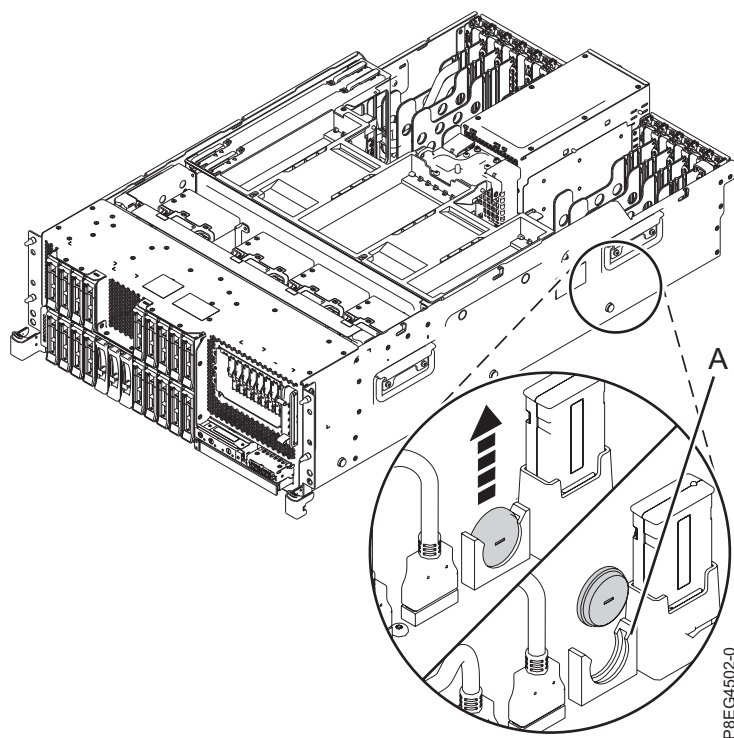

Figure 1. Removing the time-of-day battery
2. Remove the time-of-day battery from its corresponding slot (A) on the system backplane, as shown in Figure 1 on page 4. Ensure to record the orientation of the polarity of the battery so that you can insert it with the same orientation later.